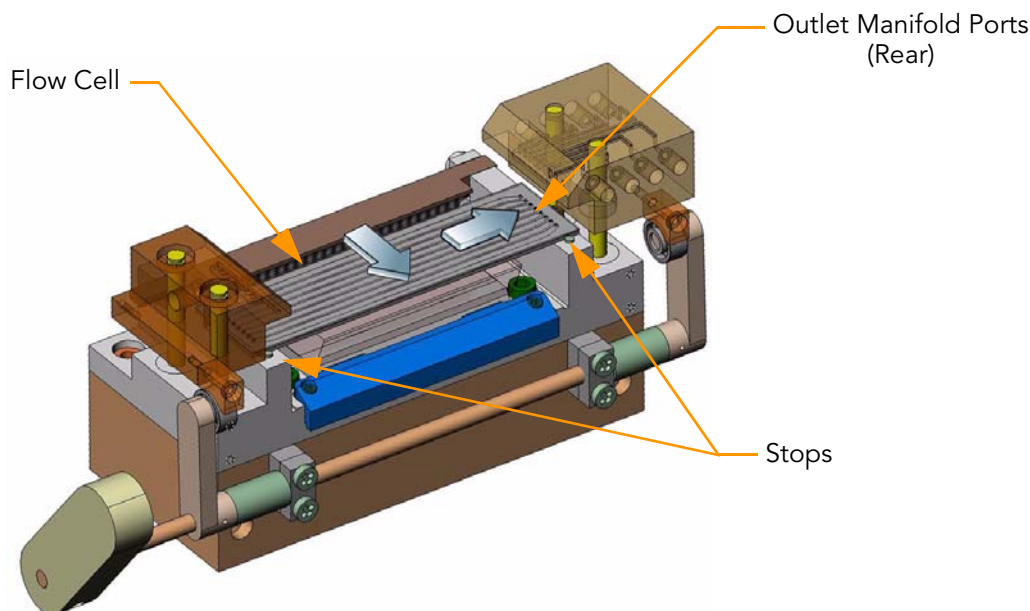

Figure 69 Positioning the Flow Cell
2. Slide the flow cell to the back until you encounter the rear stop (Figure 69).